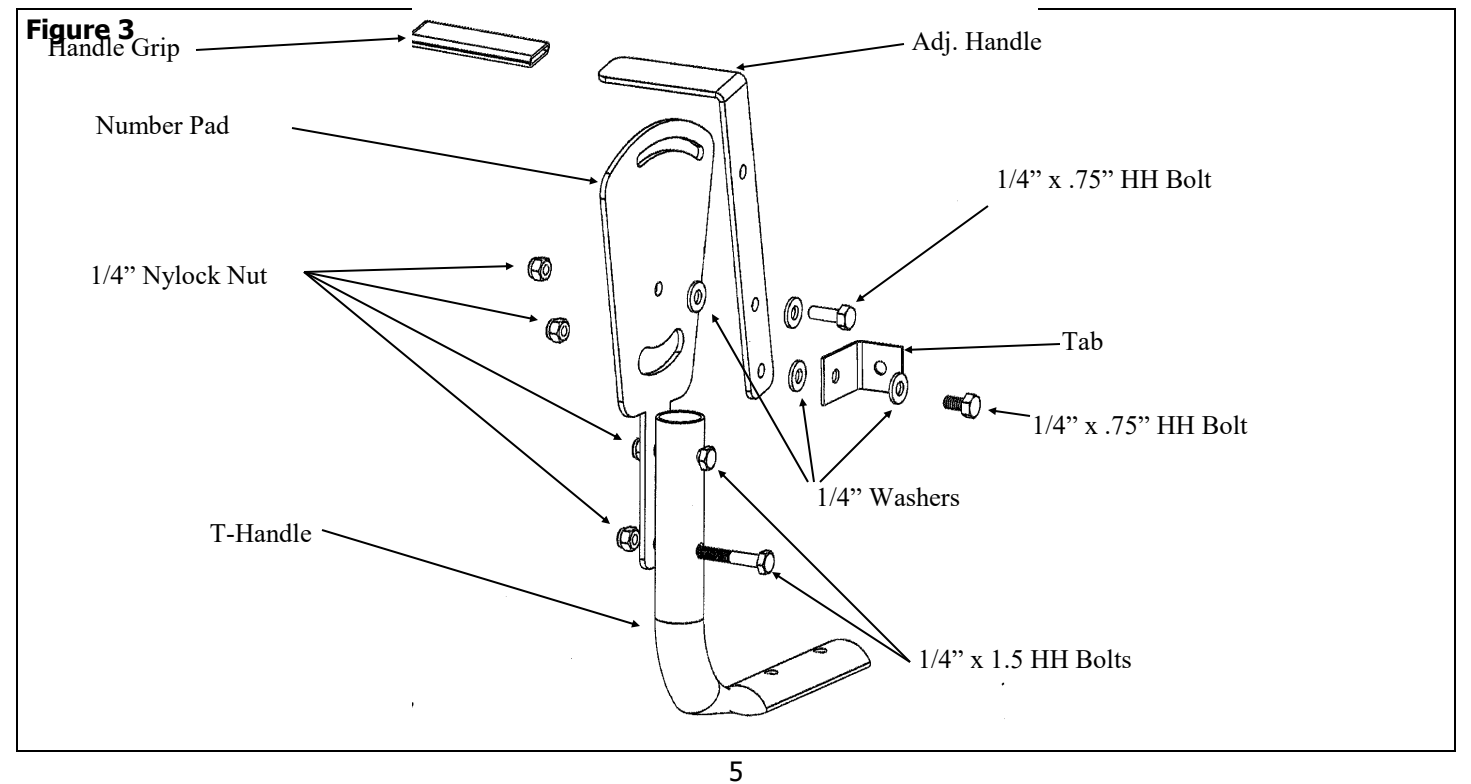

Figure 3
3. Attach the Number Pad to the top of the T-Handle using 1/4" x 1.5" Hex Head Bolts and 1/4" Nylock Nuts. Attach the Adj Handle to the Number Pad using a 1/4" x .75" Hex Head Bolt, two 1/4" Washers and 1/4" Nylock Nut. Using a hammer, gently tap the 1" Tube Plug into the open end of the T-Handle. Attach the Tab to the bottom of the Adj. Handle using a 1/4" x .75" Hex Head Bolt, two 1/4" Washers and a 1/4" Nylock Nut. Slide Grip onto Adj. Handle. See Figure 3.